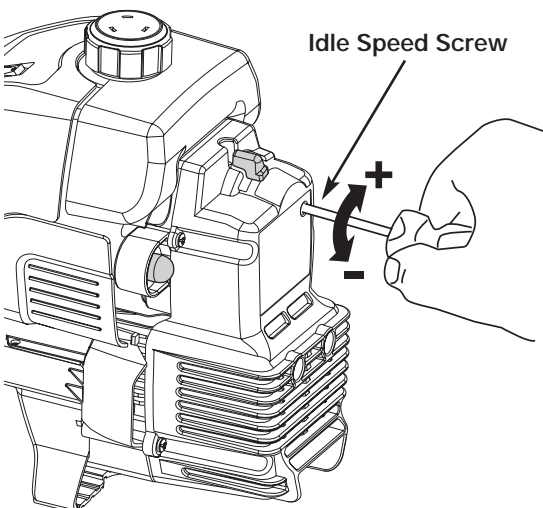

Fig. 66
The idle speed of the engine is adjustable through the air filter/muffler cover (Fig. 66).
2. Release the throttle trigger and let the engine idle. If the engine stops, insert a small phillips screwdriver into the hole in the air filter/muffler cover (Fig. 66). Turn the idle speed screw in, **clockwise**, 1/8 of a turn at a time (as needed) until the engine idles smoothly.